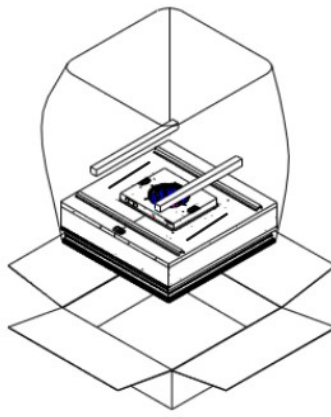

Figure 1: Unboxing
Step 1. Carefully remove the unit from the shipping carton and inspect for any damage that may have occurred during transportation (See Figure 1). Using the two handles attached to the lid, two workers minimum, are required to lift the unit from the box.